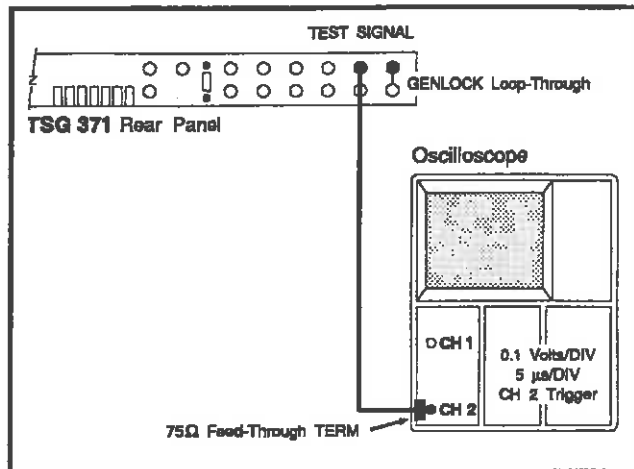

Fig. 5-5.
- Connect the equipment as shown in Fig. 5-5.